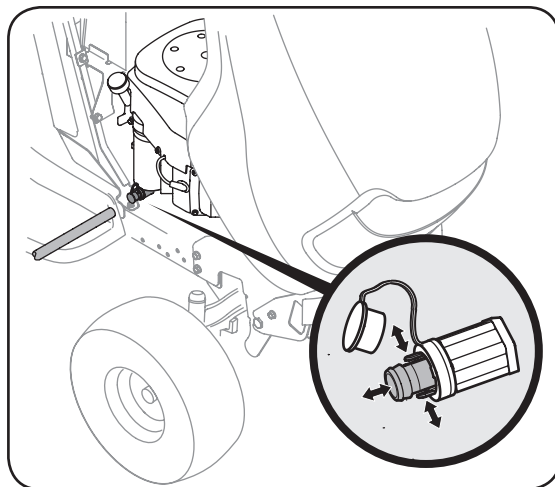

Figure 6-1
1. Pop open the protective cap on the end of the oil drain valve to expose the drain port. See Figure 6-1.
4. Pinch the tabs on the oil drain valve, then pull outward to begin draining oil. See Figure 6-1.